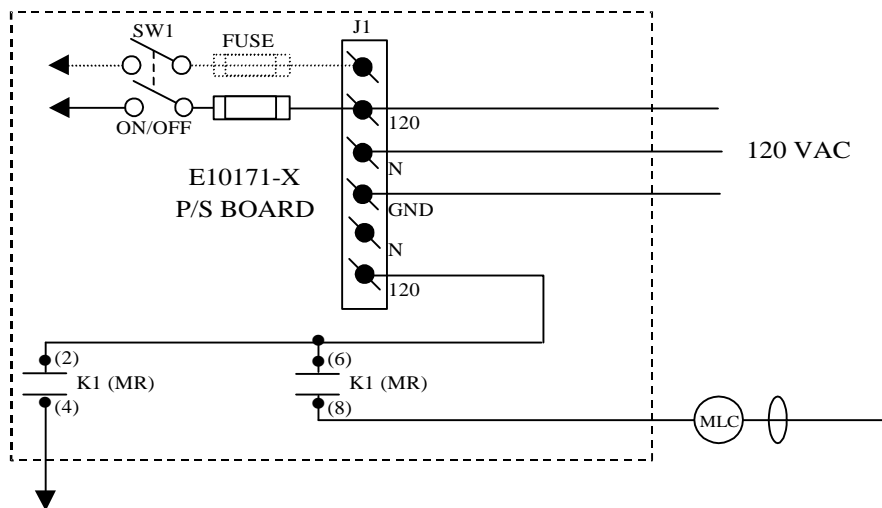
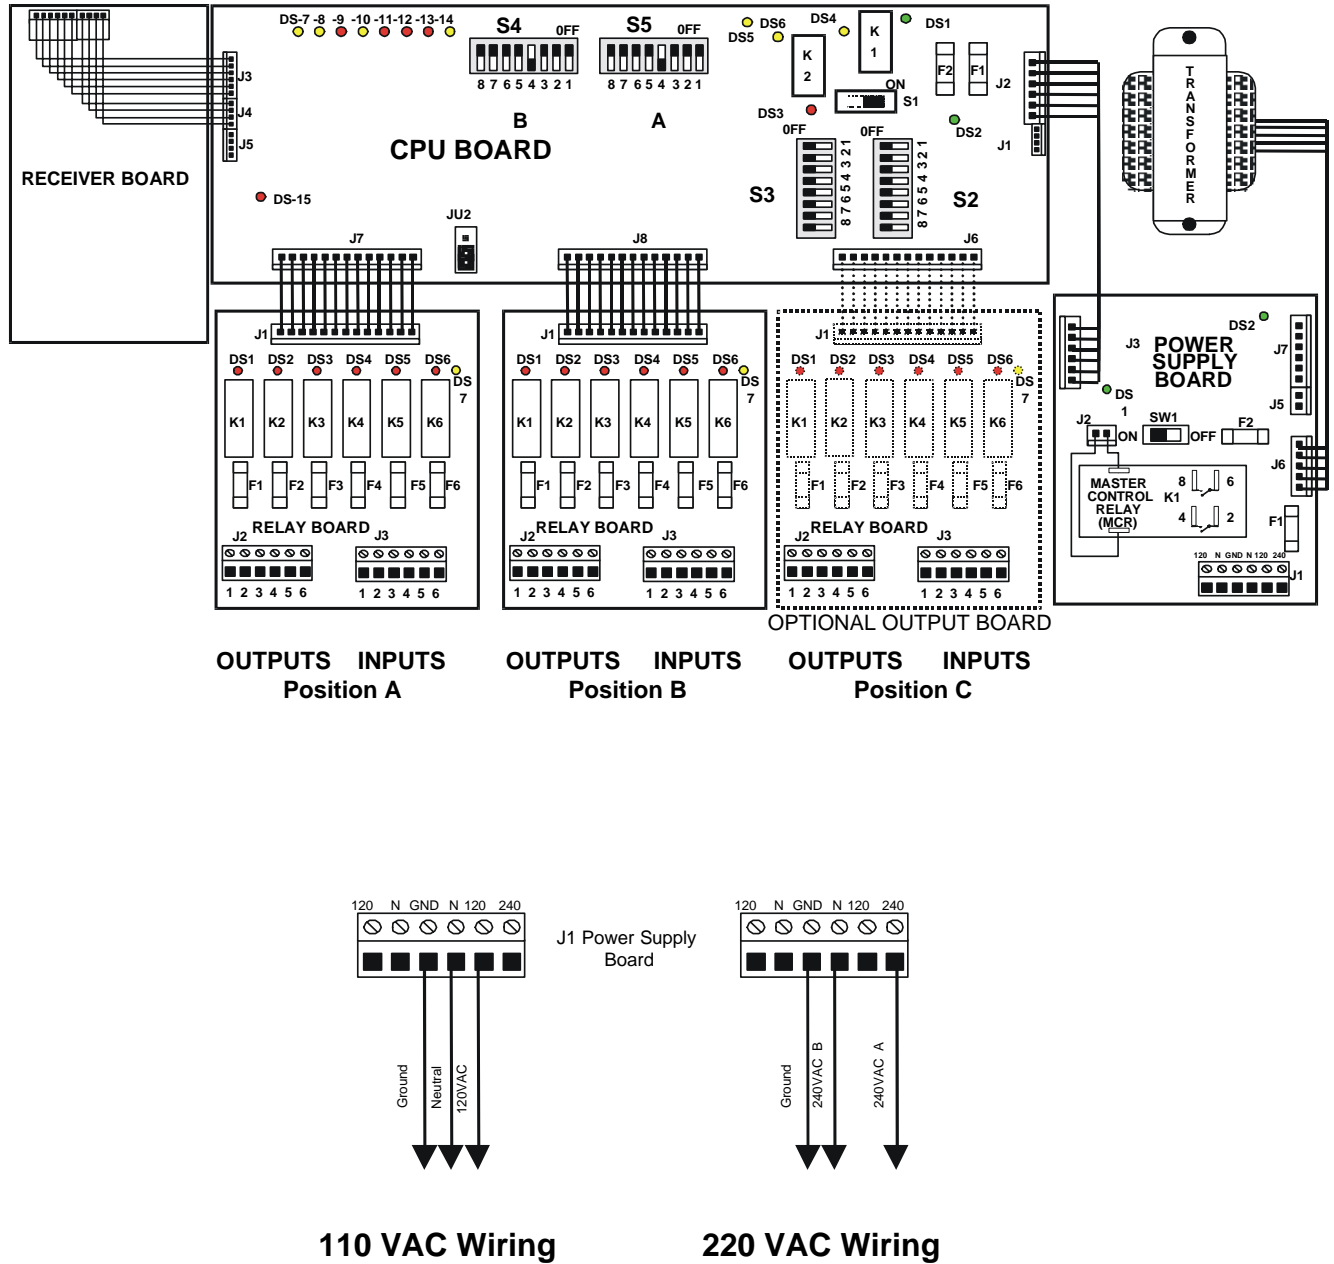

Figure A-1. Optional 120 VAC Wiring Diagram
Figure A-2. 10K12 Wiring Layout
Power supply wiring is accomplished through connector J1 on the power supply board. The connections labeled 240, 120, N and GND are wired to the appropriate supply connections per the wiring diagrams. An extra connection 120 is provided for 120 Volt applications only for jumpering to Pins 2 and 6 of the Master Relay (MR) K1 on the power supply board. The unit may optionally be wired as in Figure A-1. Figure A-2 shows the wiring layout. All other wiring is accomplished per the tables.